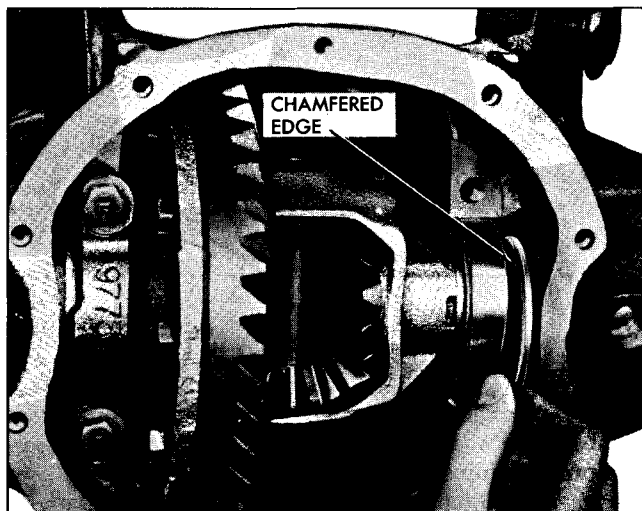

Fig. 4C-21 Installing Service Spacer
3. Rotate differential case several times to seat bearings, then mount dial indicator as shown in Fig. 4C-22.